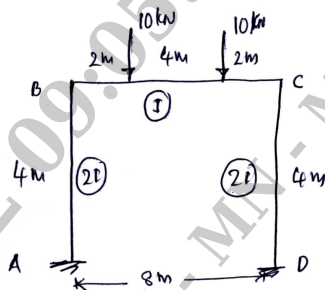

Fig.Q.6
- 6 Analyze the frame shown in Fig.Q.6 by Kani's method. Take the advantage of symmetry. (20 Marks)